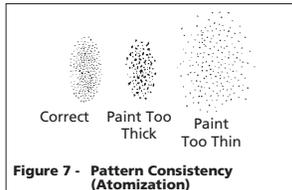

Figure 7 - Pattern Consistency (Atomization)
The fluid control knob will control trigger travel and the amount of material flowing through the gun. (Turn the knob clockwise to reduce flow, counterclockwise to increase the flow.) This adjustment depends, in part, on the amount of air flowing through the gun. Air flow can be adjusted only at the compressor's pressure regulator. Spray test patterns on scrap cardboard with gun 8" away from surface. Trigger short, one second bursts and make adjustments with this knob until the pattern is the desired oval shape and the material is evenly distributed on the surface with no heavy or thin spots. The pattern should feather out at the edges (See Figure 7).
4. With gun 8" away from surface, trigger a short, one second burst while turning fluid control knob counterclockwise. Observe the spray pattern on the target and adjust the fluid control knob until the desired pattern (atomization) is obtained (See Figure 7).